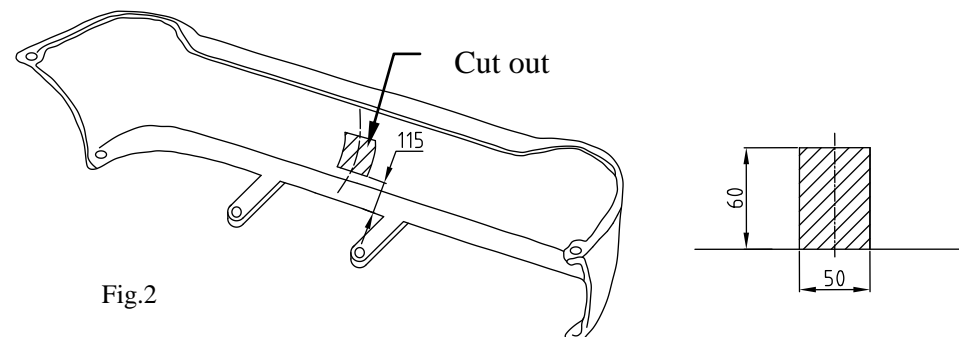

Fig.2
4. Assemble the muffler and bumper (after cut out his fragment), see fig. 2.